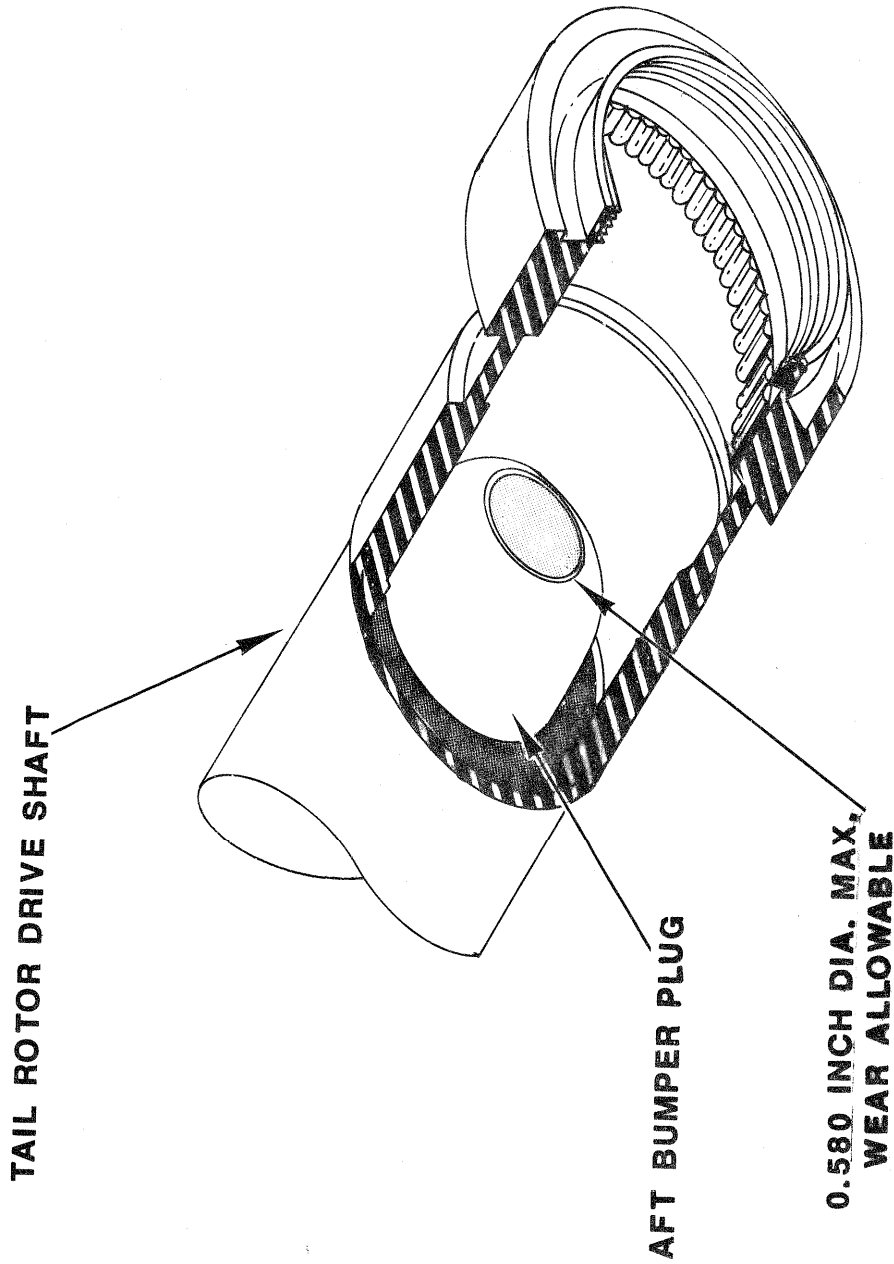

FIGURE 2. TAIL ROTOR DRIVE SHAFT AFT BUMPER PLUG
- (5) Inspect aft bumper plug in tail rotor drive shaft for wear or damage . (Refer to Figure 2.)
- (6) If wear or damaged area exceeds 0.580 inch diameter, replace drive shaft. (Contact your SAC Customer Service Center for disposition.)
- (7) Inspect tail rotor transmission driven spline and coupling nut in accordance with HMI Appendix C, Part III, Table 3-1; repair or replace as required.
- (8) Reinstall tail rotor drive shaft in accordance with Basic HMI, paragraph 10-93.